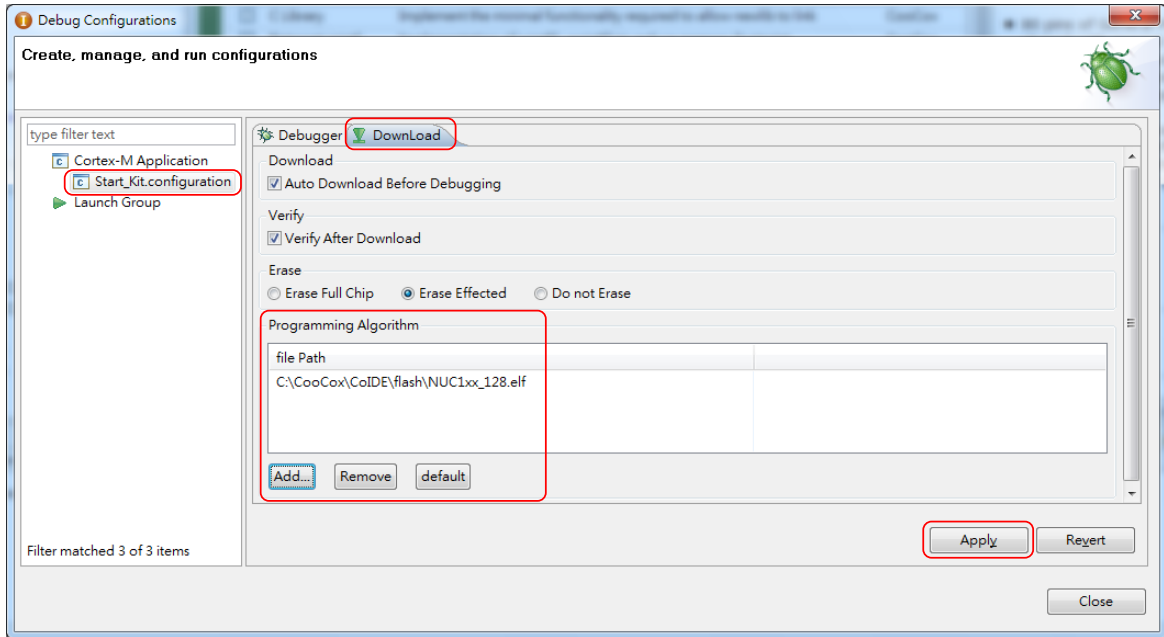

Figure 4-21 CooCox CoIDE Programming Settings
Step 4: In the **Download** tab of the *Debug Configurations* form (through invoking **Debug** → **Debug Configurations**), select the **Auto Download Before Debugging** or **Verify After Download** option to proceed with a specific programming, and set the Programming Algorithm path as `"C:\CooCox\CoIDE\flash\NUC1xx_128.elf"`, as shown in Figure 4-21.
Step 6: At last, click **Apply** to save the settings, as shown in Figure 4-21.